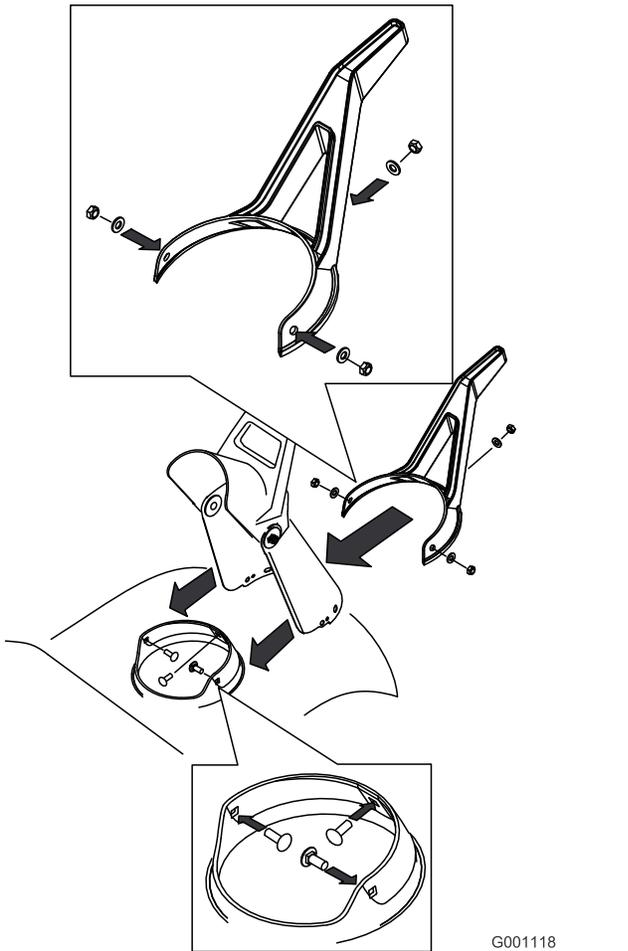

Figure 27
3. Remove the discharge chute by removing the 3 screws holding the chute and the screws holding the chute seal (Figure 27).